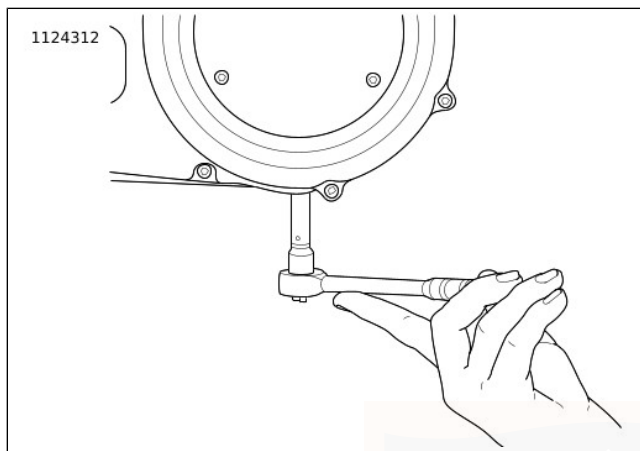

Figure 61. Removal/Installation of Chaincase Drain Plug
3. See Figure 61. Drain primary chaincase.